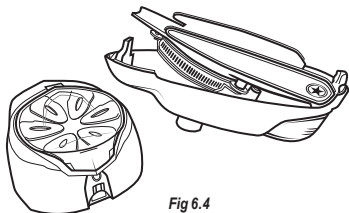

Fig 6.4
4. Grab the Floor from the sides and pull it free of the Lower Shell (Fig 6.4).